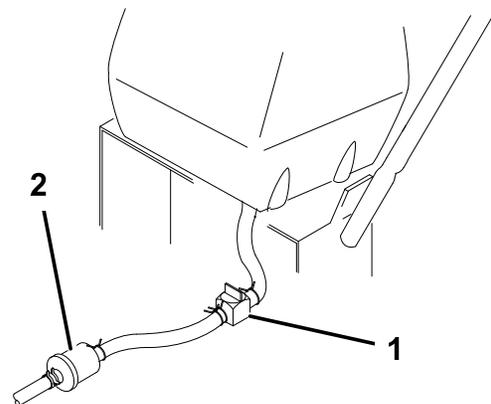

Figure 31
2. Close the fuel-shutoff valve at the fuel tank (Figure 31).
3. Squeeze the ends of the hose clamp together and slide it up the fuel line away from fuel filter (Figure 31).
4. Pull the fuel line off the fuel filter (Figure 31). Open the fuel-shutoff valve and allow the gasoline to drain into a gas can or drain pan.
3. Close the fuel-shutoff valve at the fuel tank (Figure 31).
7. Open the fuel-shutoff valve at the fuel tank (Figure 31).